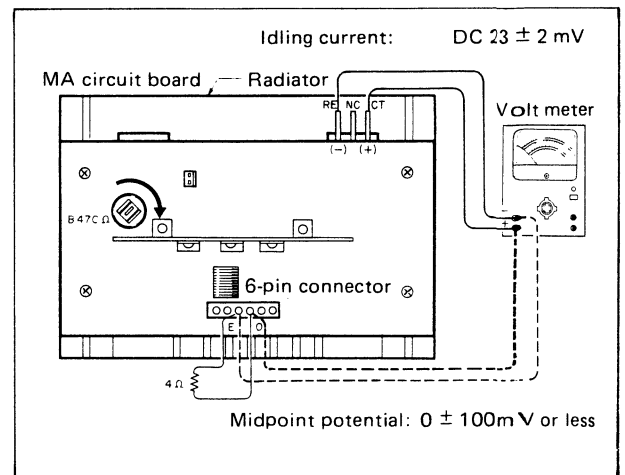

Fig. 5
Adjust the B470 Ω semi-fixed resistor so that the voltage across test points RE (–) and CT (+) is set to DC 23 ± 23 mV under no-signal conditions. (Fig. 5)
Check that the DC voltage across the output terminals (O) and E under no-signal conditions is within 0 ± 100 mV. (Fig. 5)